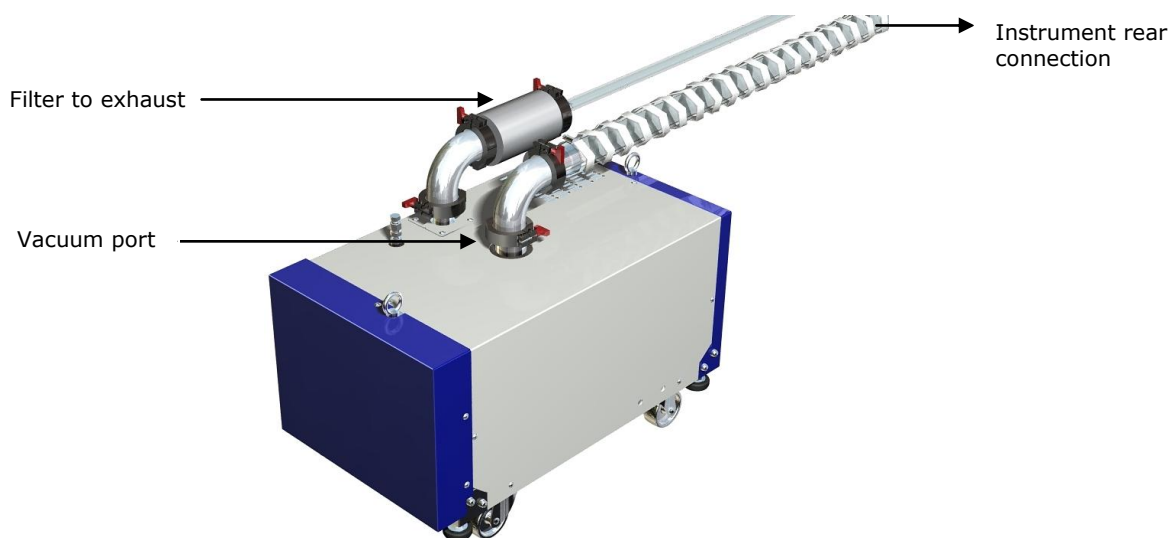

Figure 11 - Backing pump and vacuum connections
4. Connect the filter to the exhaust port on the pump (Figure 11).